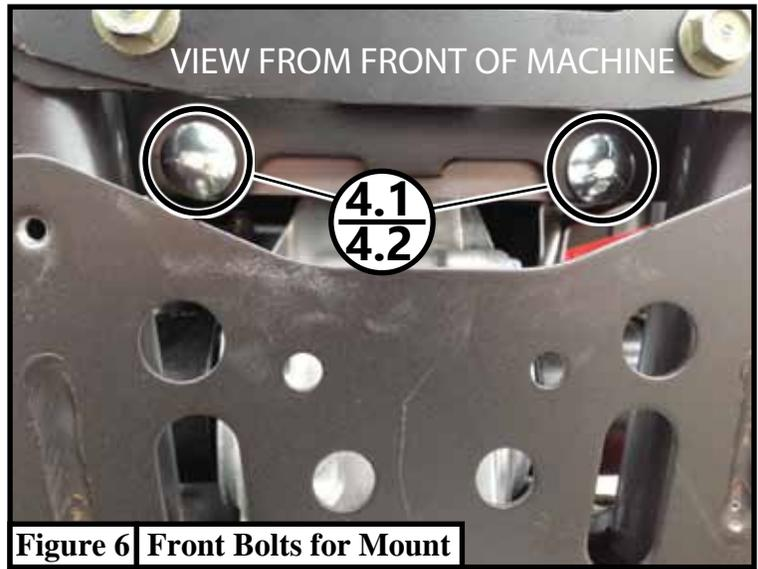

Figure 6 Front Bolts for Mount
6. Fasten the winch mount (1) to the front frame rail using the 3/8" carriage bolts (4.1) and 3/8" nuts (4.2) as shown in **Figure 6** with nuts to the inside so the carriage bolts sit in the square cutout. Use the 3/8" (4.1) carriage bolts and 3/8" nuts (4.2) as shown in **Figure 7** with the bolt head inside the frame channel, for the rear holes.
8. If there is space between the frame and winch mount, refer to page 4 and use the washer and bolts. Depending on where the winch sits (too close on front or back side), you may need to place washers in front or behind the winch mount (1) to move the winch and mount forward or back to provide the clearance needed.